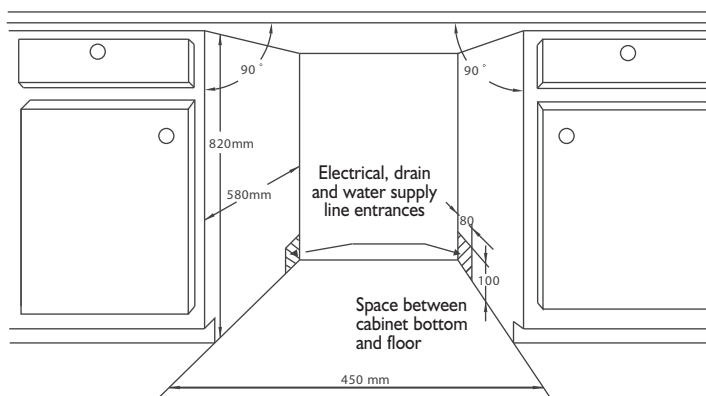

Fig. 1
1. Choose a place near the sink to facilitate the installation of inlet and drain hoses (see **fig. 1**).